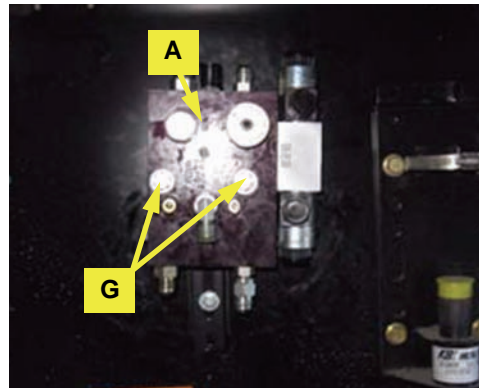

Figure 2c: Steering block - mounted
- c. Using the provided hardware **G**, attach the prepared hydraulic steering block **A** to bracket **E** (not visible) (Figure 2c).